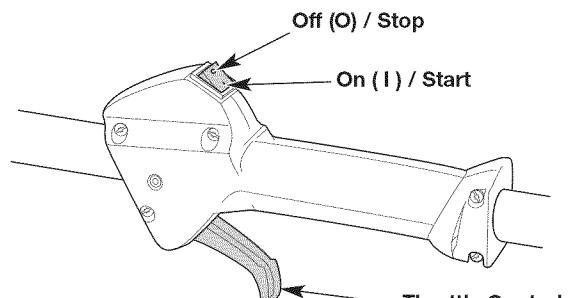
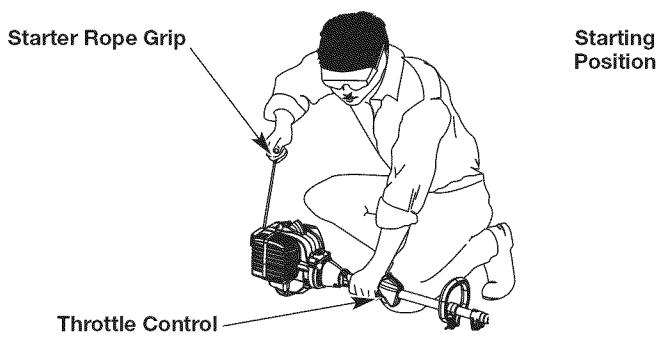

Fig. 9
Fig. 12
WARNING: Avoid accidentally starting the unit. To avoid serious injury, the operator and the unit must be in a stable position when pulling the starter rope (Fig. 12).
- NOTE:** There is no need to turn the unit on. The On/Off switch is in the ON (I) position at all times (Fig. 9).
5. Crouch in the starting position (Fig. 12).
6. Squeeze the throttle control (Fig. 9) and pull the starter rope with a controlled and steady motion **5 times** (Fig. 12).
2. Press and hold the On/Off switch in the OFF (O) position until the engine comes to a complete stop (Fig. 9).
7. Squeeze and hold the throttle control (Fig. 9). Run the Speed Start™ accessory for 2 seconds.